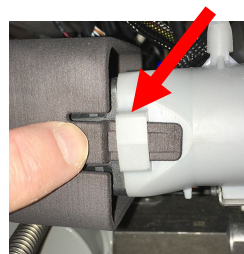
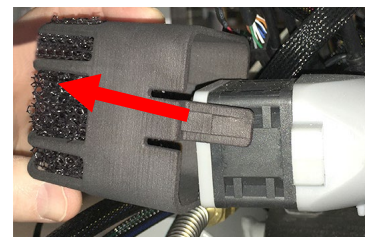

Figure 10
Figure 11
15. Remove the filter bracket by gently pressing in on the left and right tabs on both sides of the bracket (see Figure 10), while gently pulling the filter bracket off the fan (see Figure 11).